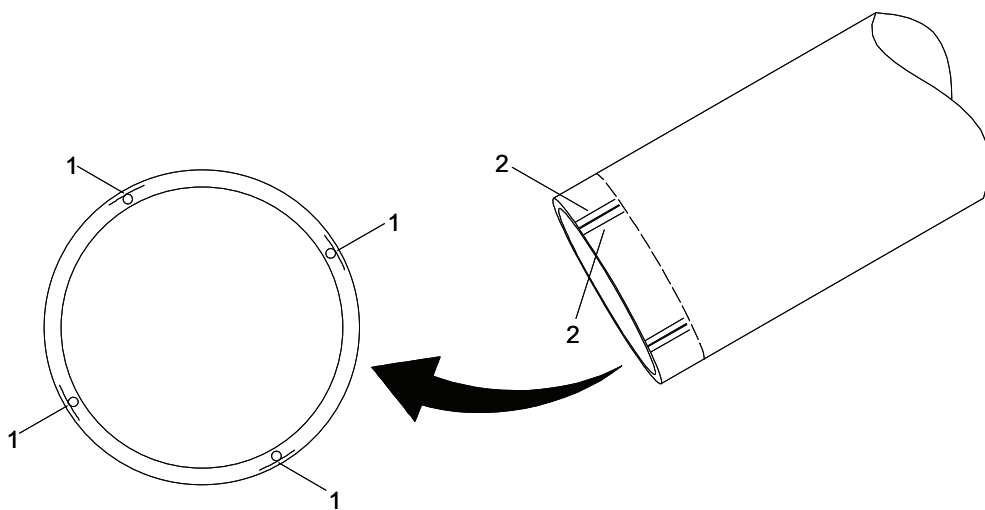

Figure 3. Hose Assembly Repair.
8. Using a knife, cut the hose assembly fabric (Figure 3, Item 1) at the open end of the hose assembly approximately $\frac{1}{4}$ in. deep between the two lengthwise (Figure 3, Item 2) cuts previously made.